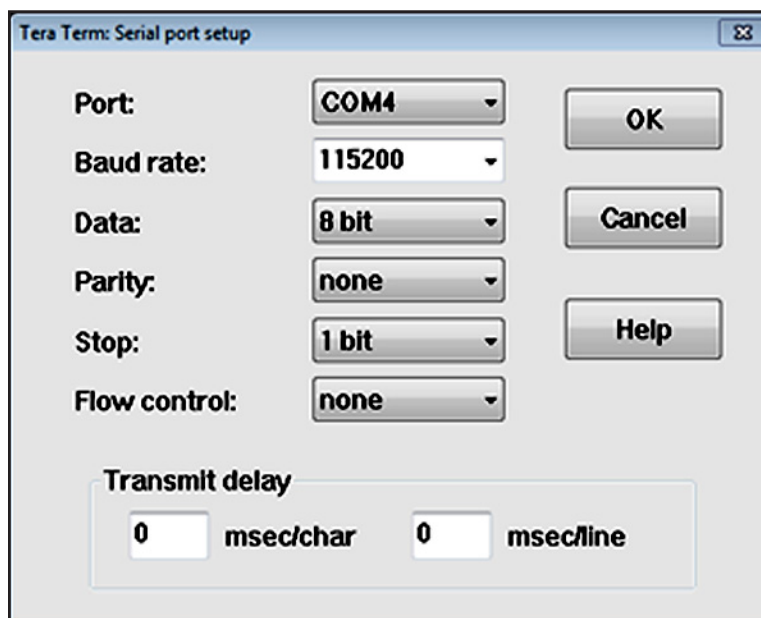

Figure 5: Configure the Com Port
6. On the *Tera Term* terminal window click on the *Setup Menu* and select *Serial Port* to configure the COM port, as shown in *Figure 5* below. Then, click **OK**